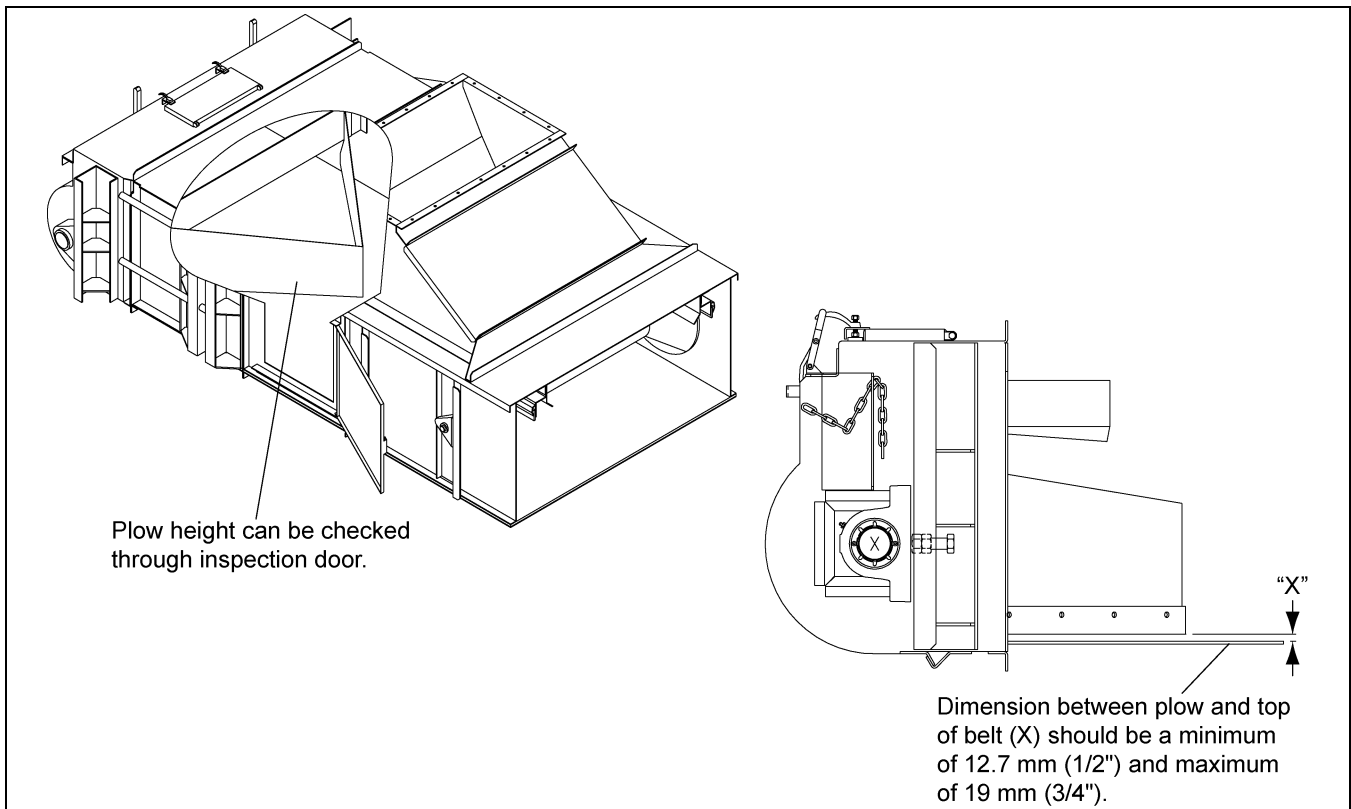

Figure 6C *Tail Plow Height Adjustment*
6. Adjust plow height to between 12 mm and 16 mm above belt. (See Figure 6C on Page 51.)